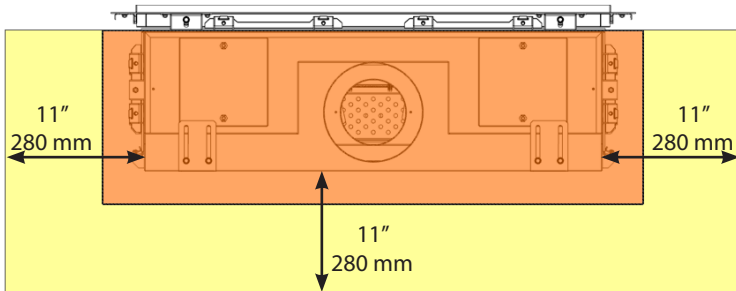

Figure 7 Plan View - Modore 100H
- The minimum clearance to non-combustible material is 2"/50 mm. (See Figures 7 - 15, clearance shown in red)
Figures 7* through 9* show (in yellow) the clearances to combustible material which *must* be maintained.